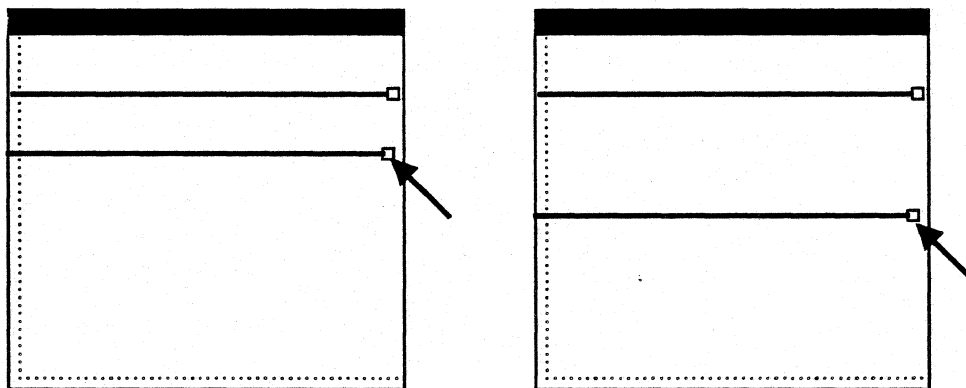

Figure 3.7
- 3) While pressing the button, move the mouse up or down to move the division line. The subwindow size increases or decreases as you move the mouse. (See figure 3.7).